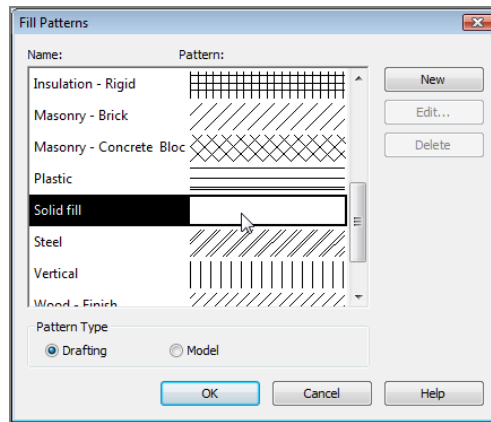

FIGURE 12.23: Select the Solid Fill pattern, and click OK.
7. You can select any hatch pattern you wish. Make sure Solid Fill is selected, as shown in Figure 12.23, and click OK.